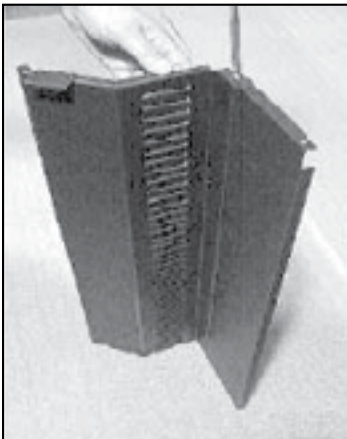

Figure 25.3
4. Stand assembly on end and attach and install (1) 8-32 x 3/8 inch screw through tab in side panel and curtain **(Figure 25.3)**.